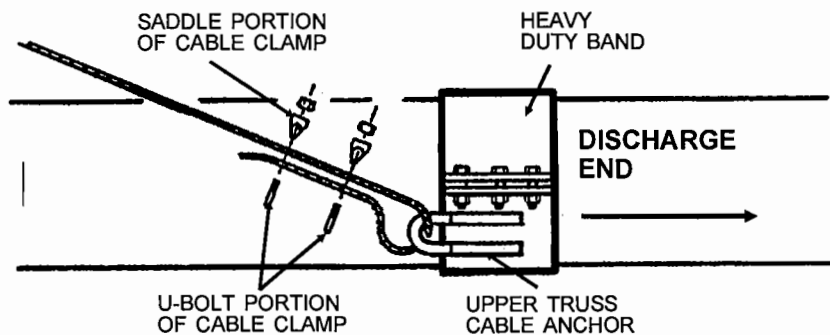

FIG. 22
- Step 7. Mount the upper truss cable anchors to auger tube using a heavy duty band and six 3/8" x 1 1/2" long (grade 5) hex head capscrews and nylon locknuts. NOTE: The upper truss cable anchor is mounted on the under side of the tube. See Fig. 22 on page 26.